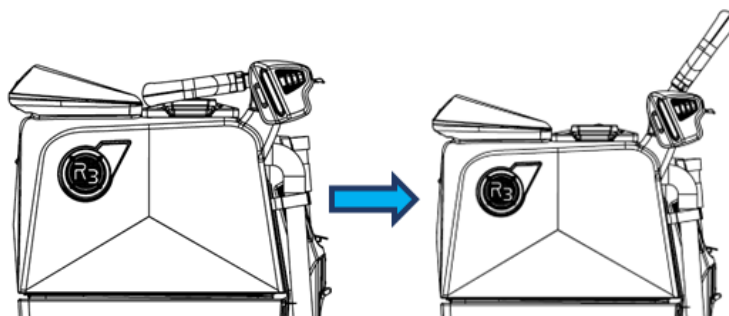

FIGURE 8-2
To transport the robot out of storage, pull up the Handle Bar (16) as indicated in (Fig. 8-2).